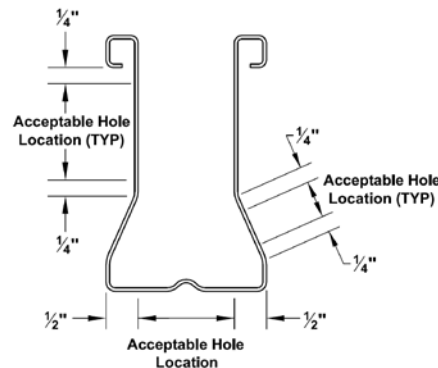

Figure 1
2. Hole is to be placed in any portion of the area labeled "**Acceptable Hole Location**" as shown in Figure 1.